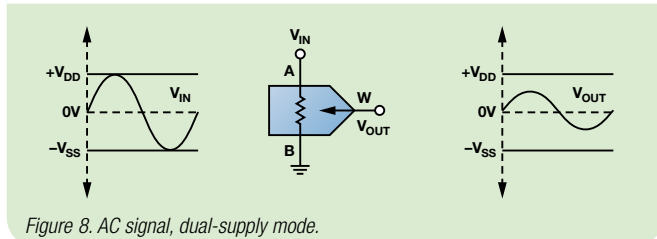

Figure 8. AC signal, dual-supply mode.
- Dual supply: ± 2.25 V to ± 16.5 V (see Figure 8)